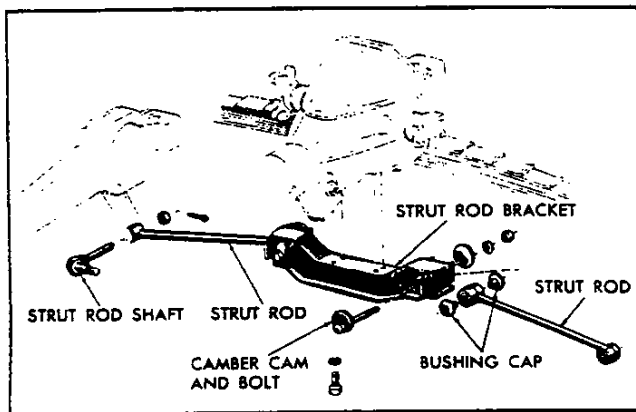

Fig. 12—Strut Rods
**STRUT ROD AND BRACKET—Figure 12**